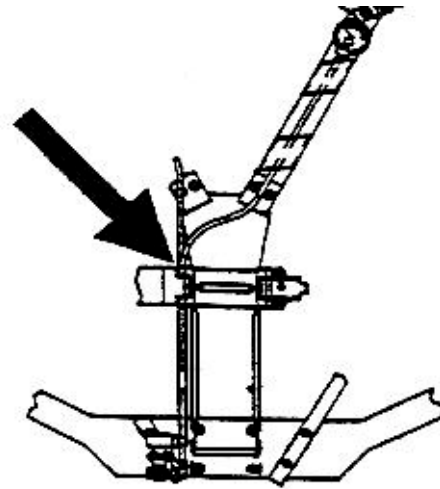

Figure 4. Hose Routing
7. Route the rubber gauge hose alongside the backpack as shown in Figure 4.